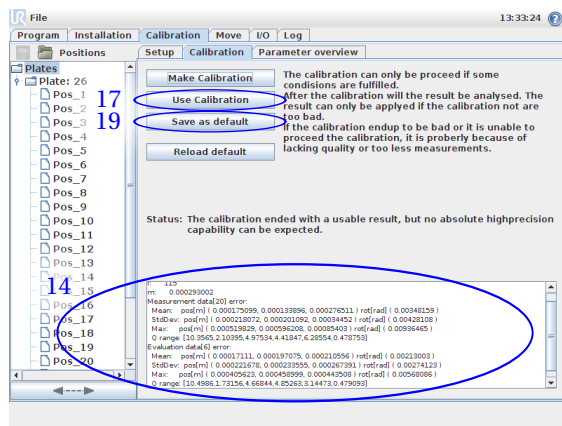

Figure 1.11: Then the calibration is done, the result needs to be evaluated, it is afterwards possible to try the new parameters and apply them to the robot.
The results from the calibration are the parameters displayed in the "Parameter overview" tab and the calculated statistics of the archived precision for the given positions. The last part is displayed lower part of figure 1.11 and is used to evaluate the calibration.
(17) Try the new calibration without saving them as the default by press "Use Calibration", see figure 1.11.
(19) Save the calibration for future use by pressing "Save as default", see figure 1.11.
(20) The Robot is know calibrated.